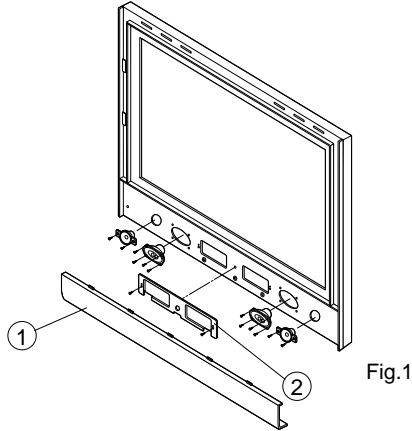

Fig.1
- Remove the loudspeaker grid (1) , the Base plate (2) (Fig.1) and the cabinet back lower.